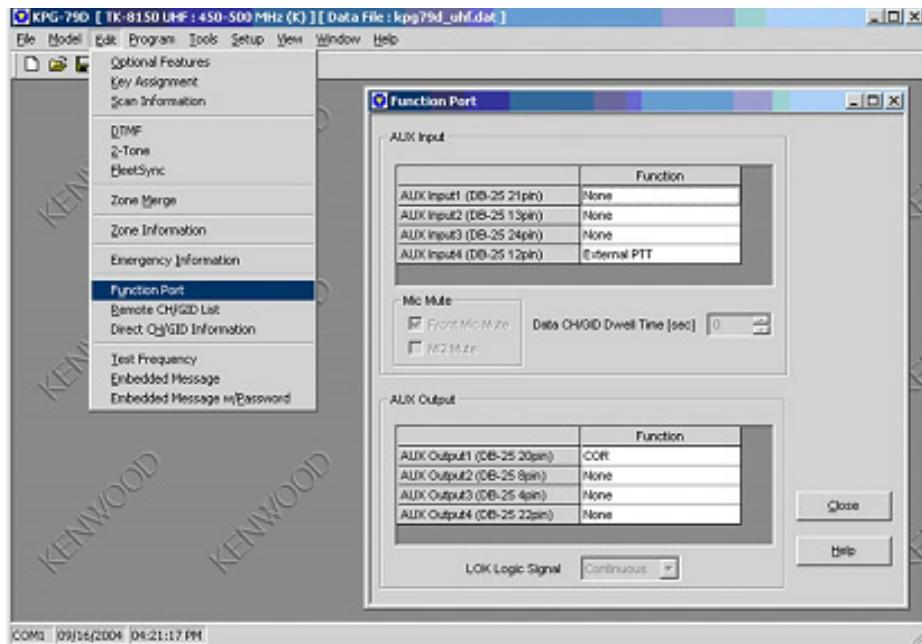

FIGURE 15. TK-x150/180 AUX Input
1. Program Function Port, Aux Input for External PTT in AUX Input 4 location and COR in AUX Output 1 (Figure 15).